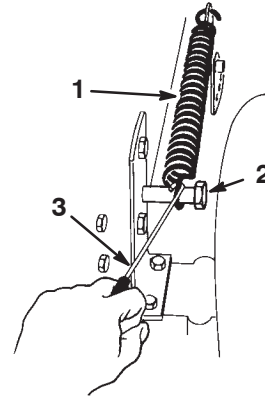

Figure 35
5. Remove the height-of-cut lift assist spring from the retaining bolt (Fig. 35). The spring is between the frame and the right rear wheel.
13. Move the height-of-cut lever into the “D” notch. Hook the lift assist spring onto the retaining bolt for storage (Fig. 35).